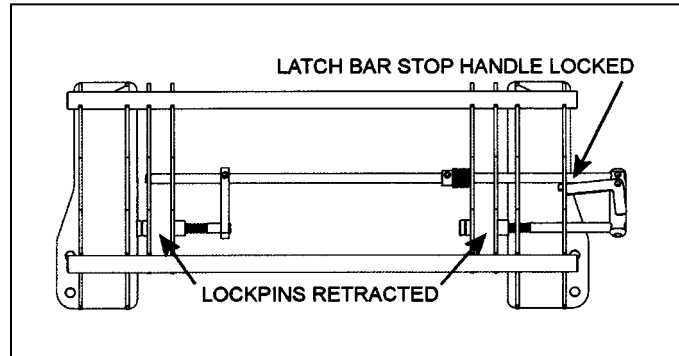

Figure 2. Latch Bar Stop Handle - Locked
2. The latch bar stop handle should be in the locked position with lock pins retracted, Figure 2.